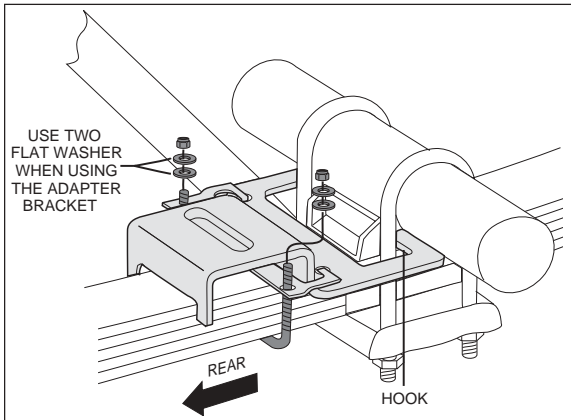

Figure 3
3. *For 2WD models: The lower bracket must be turned so that the finger portion of the bracket it is located around the vehicle U-bolt (Figure 3).*
- a. Use the provided adapter bracket to mount kit behind the axle only on the side where the shock is next to the assembly. No adapter is needed when the shock is on the opposite side of the axle (Figures 3 & 4).
Stability translates into safety and should be the priority, meaning the driver may need to sacrifice a perfectly level and comfortable ride. Stability issues include roll control, bounce, dive during braking and sponginess (fig. 3). Tuning out these problems usually requires an increase in pressure.